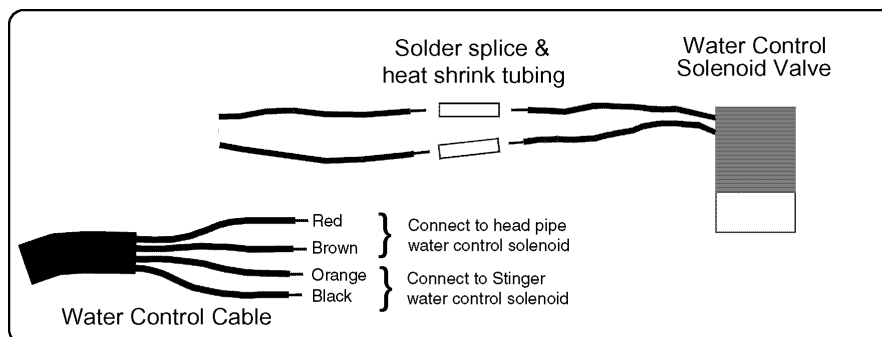

Figure 1
2. On water control cable from Ignition, remove 1.5" of outer covering. Strip ¼" of insulation from ends of wires you intend to use (See Figure 1). If the stinger wire pair is not being used, tape each wire end and pull wires back along cable and tape in place for possible future use.